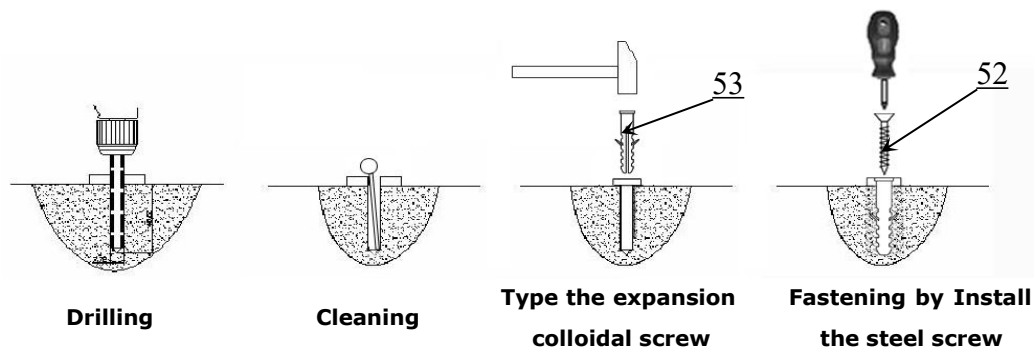

Fig. 23
2. Install the colloidal screw of oil hose cover (See Fig. 23).